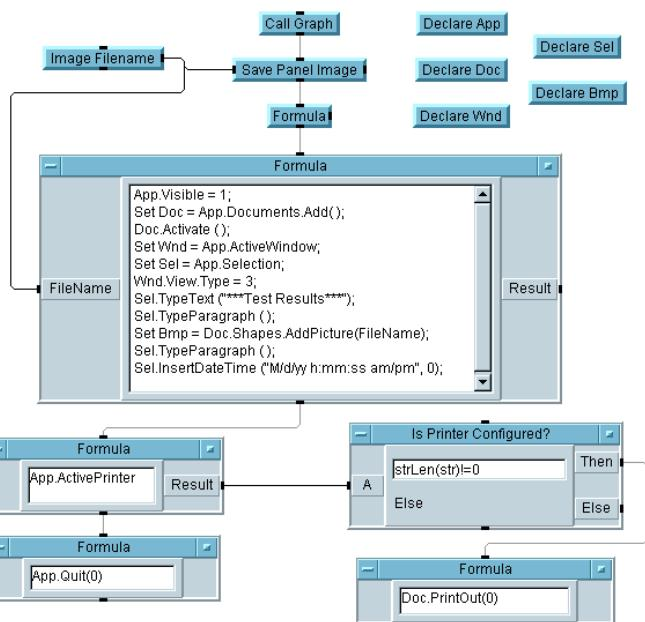

Figure 6-17. The Complete Program for Report in MS Word
8. Add three more Formula objects and one If/Then/Else object, configure, and connect them as shown in Figure 6-17.